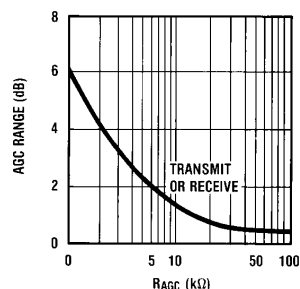

FIGURE 3
* See Figure 3
The range of transmit and receive gain variations between short and long loops may be adjusted by connecting a resistor from this pin to V- (pin 3). Figure 3 shows the relationship between the resistor value and the AGC range. This pin may be left open-circuit to defeat AGC action.